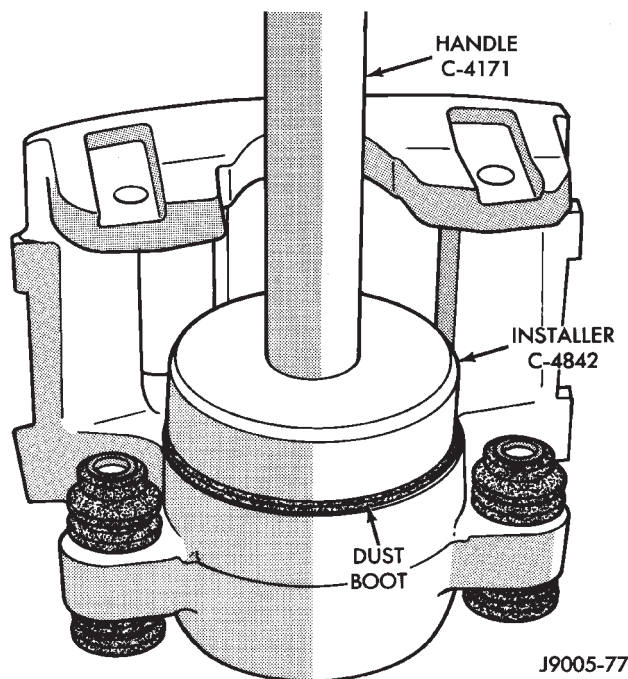

Fig. 74 Piston Dust Boot Installation
- (7) Press caliper piston to bottom of bore.
- (8) Seat dust boot in caliper with Installer Tool C-4842 and Tool Handle C-4171 (Fig. 74).
- (9) Replace caliper bleed screw if removed.